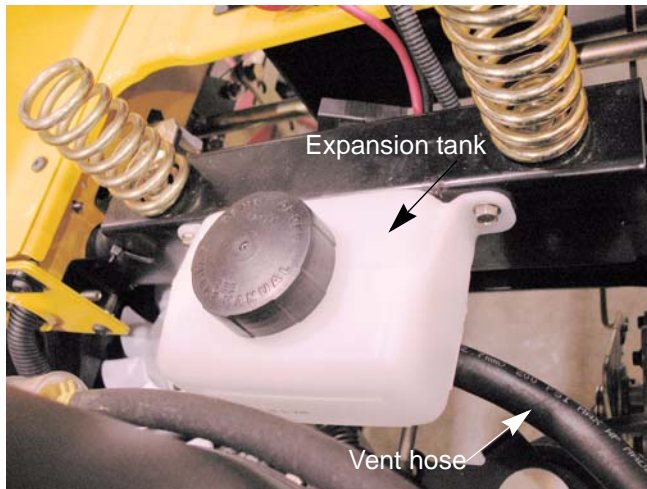

Figure 5.16
5. Remove the two screws that hold the expansion tank to the seat box using a 7/16" wrench. See Figure 5.16.